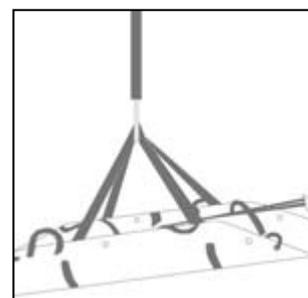

Fig. 11
- Make sure the four ends of the two belts are equally long and fix them to the buckles (fig. 11).